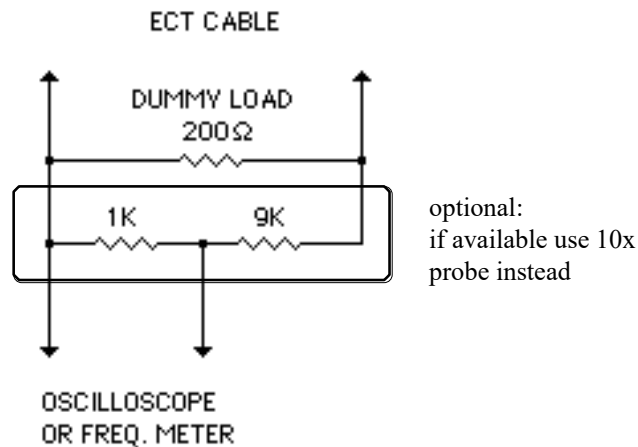

fig. 3.2
- 3.2 Connect Oscilloscope across the dummy load. Be sure the scope can measure up to 500 volts. If not, construct a high impedance divider such as in fig. 3.2.
Connect a frequency counter to the dummy load divider as in fig. 3.2. Set up proper triggering. Make sure the overshoot does not double trigger the counter. Set the counter to period measure. Set PERCENT ENERGY dial to 100% and press TREAT button. The reading should be 14.28 msec $\pm 5\%$ which corresponds to 70 Hz. Set PERCENT ENERGY dial to 50% and press TREAT button. The reading should be 25.00 msec $\pm 5\%$ which corresponds to 40 Hz. Set PERCENT ENERGY dial to 20% and press TREAT button. The reading should be 50.0 msec $\pm 5\%$ which corresponds to 20 Hz.